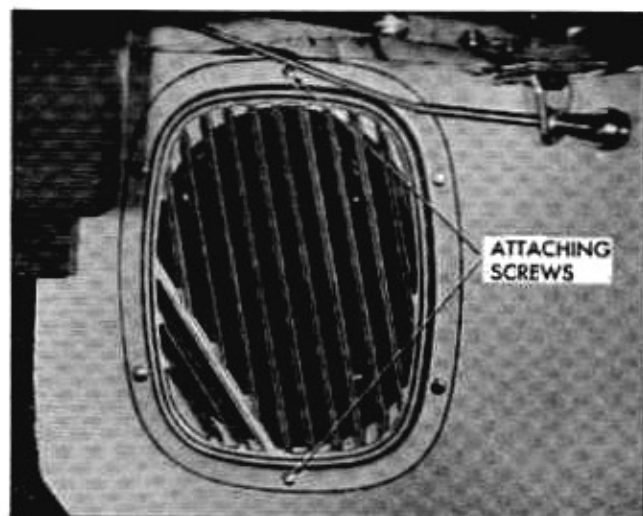

Fig. 4-1 Pontiac—Right Vent and Vent Control
Control knobs mounted on the instrument panel provide individual control of the air flow through the inlets into the front passenger compartment (Figs. 4-1 and 4-2).
1. Remove screw at upper and lower end of air inlet grille (Figs. 4-1 and 4-2) and bend down tabs securing foundation to floor pan.